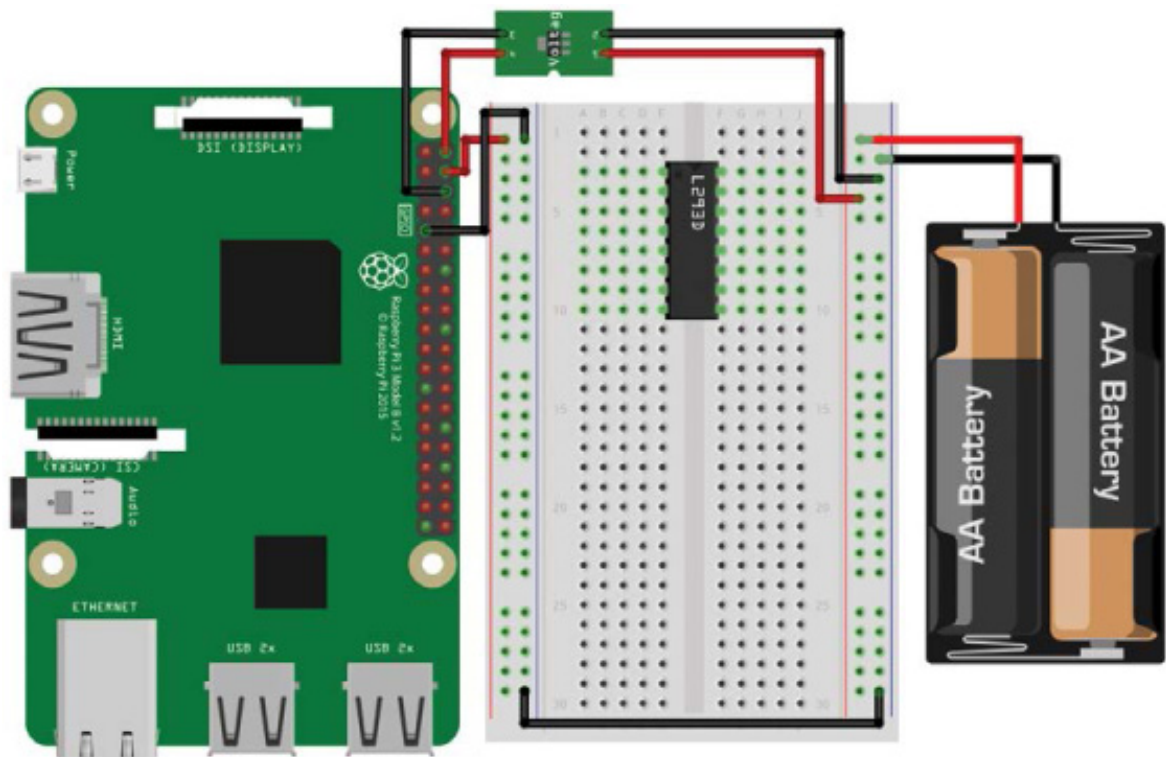

FIGURE 3-24 The L293D IC inserted into the breadboard with the Pi's power rails connected
M-F jumper wire to connect the second 5 V pin (physical pin 4) of your Pi to the red power rail on the edge of your breadboard that you're *not already using*. Use another M-F jumper wire to connect a ground pin of your Pi (physical pin 9) to the blue power rail on the same side; see Figure 3-24. *Make sure you're not connecting anything to the power rail that you previously wired up!*
- Now we'll connect the grounds of the two power rails up. Connect the two ground rails on your breadboard by running a black M-M wire from one blue power rail to the other. This connects your Pi's ground rail to your battery's ground rail, as shown in Figure 3-24. We refer to connected grounds as the *common ground*.